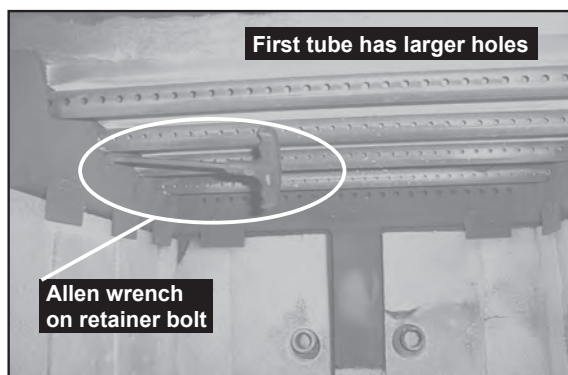

FIGURE 25B - Allen wrench on retainer bolt.
2. With a 3/16" allen wrench, remove the 2 front secondary combustion tube retainer bolts on the secondary air channel under the end of the front tubes. See Figure 25B. NOTE: Soak the bolts with penetrating oil for at least 15 minutes before trying to remove them.